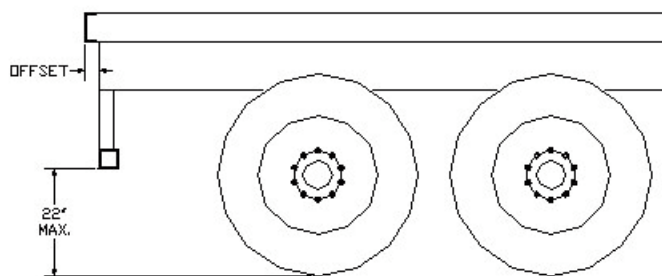

Figure 17
- 1.) With the trailer unloaded, on a flat level surface, tires and air suspension properly inflated, note the location of the existing underride bumper (distance from bottom surface to ground and offset from rear sill). See figure 17 on next page.